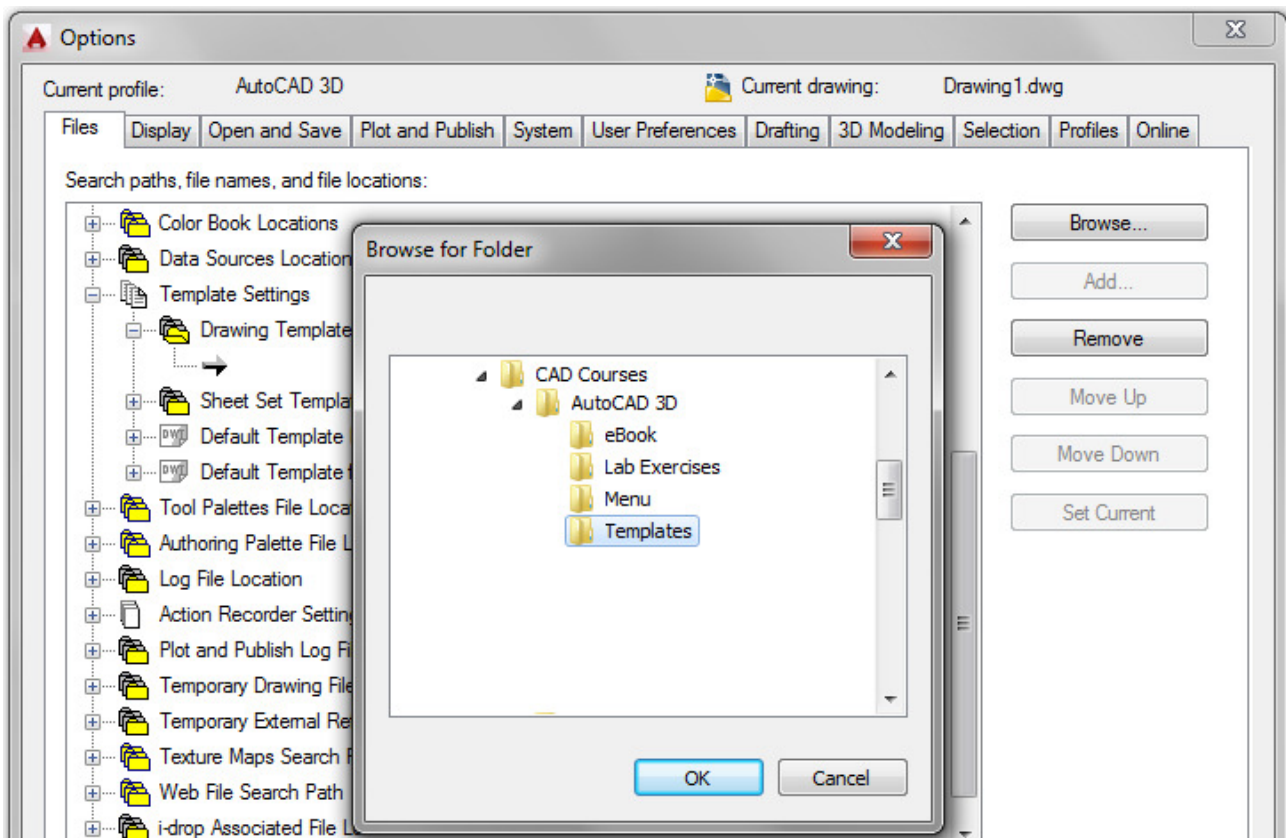

Figure Step 23
Step 23 Click the Browse button. In the Browse for Folders dialogue box, locate the folder: (Figure Step 23)